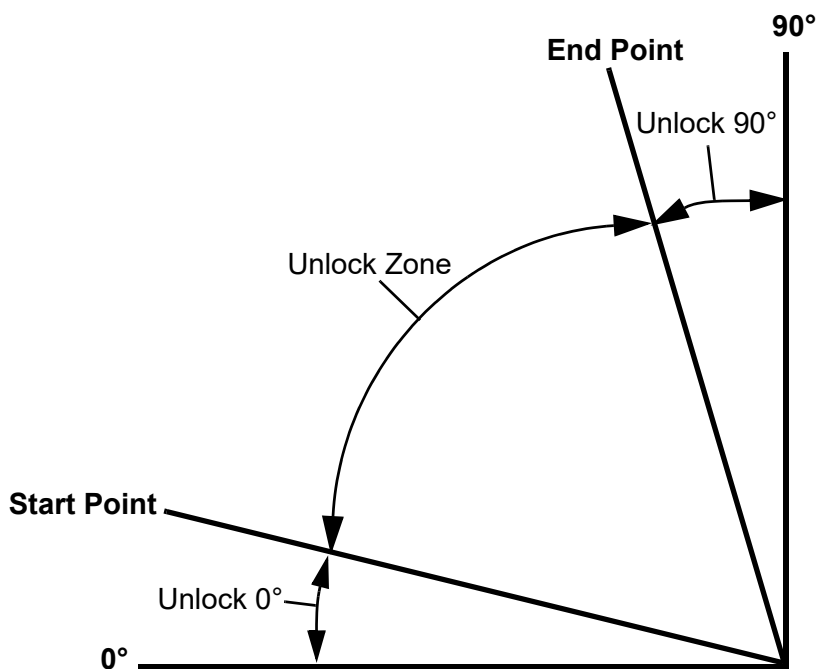

Figure 8-7 Middle Zone Parameters in Tilting Path Arc
4. Consult Figure 8-7 while programming the Middle Zone parameters.
5. **Adjust the START POINT parameter:** The START POINT parameter is the lower limit of the zone. The lower limit is closest to the 0° angle (Figure 8-7).
6. **Adjust the END POINT parameter:** The END POINT parameter is the upper limit of the zone. The upper limit is closest to the 90° angle (Figure 8-7).